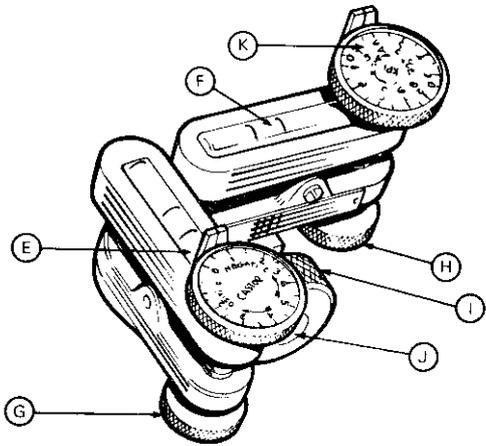

Figure 7 Castor gauge
Fit the Dunlop CG/5 gauge with caster dial to the left of spindle (E) and secure with knurled nut (**Figure 7**).
Set the castor dial on the top to zero (**Figure 7**).
Set castor dial to zero, centre the bubble (E) by turning the lower knurled screw (H) (Figure 7).